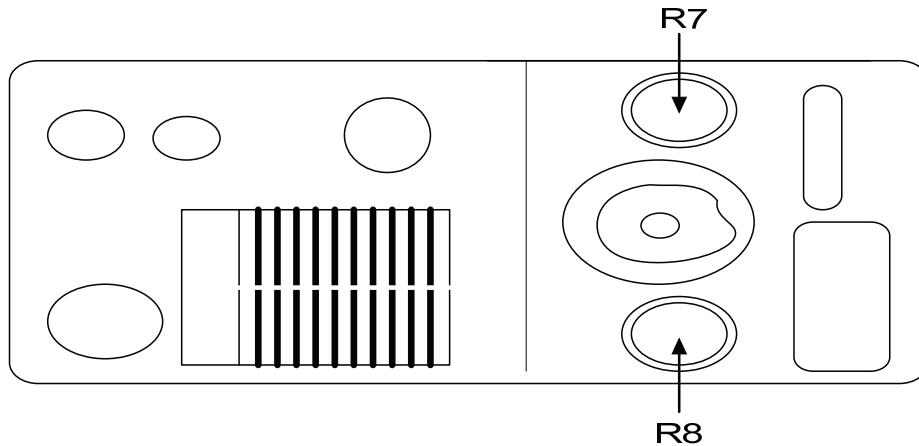

Figure 1. Frequency adjustment locations.
- (1) Set range function control to **4000-25000**.
- (2) Adjust **RPM** control to **21600**.
- (3) Adjust **HIGH CAL** trimmer (screwdriver control on front panel) for 2.78 ms indication on frequency counter.
- (4) Adjust **RPM** control to **5400**.
- (5) Adjust **LOW CAL** trimmer (screwdriver control on front panel) for 11.11 ms indication on frequency counter.
- (6) Repeat (2) through (5) above to compensate for interaction of adjustments.
- (7) Set range function control to **670-4170** and adjust **RPM** control to **3600**.
- (8) Adjust R7 (fig. 1) for 16.66 ms indication on frequency counter (R).
- (9) Adjust **RPM** control to **900**. If frequency counter does not indicate between 66.00 and 67.340, repeat (1) through (8) above.
- (10) Set range function control to **110-690** and adjust **RPM** control to **600**.
- (11) Adjust R8 (fig. 1) for 100.0 ms indication on frequency counter (R).
- (12) Adjust **RPM** control to **150**. If frequency counter does not indicate between 396.03 and 404 ms, repeat (1) through (6), (10), and (11) above.
- (13) Repeat a above.